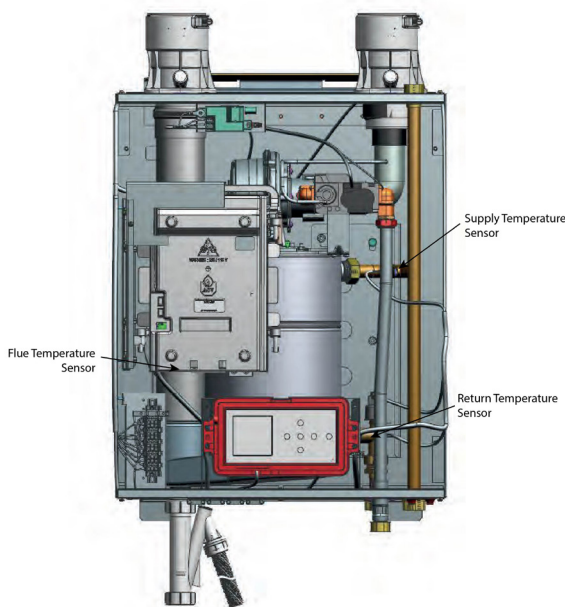
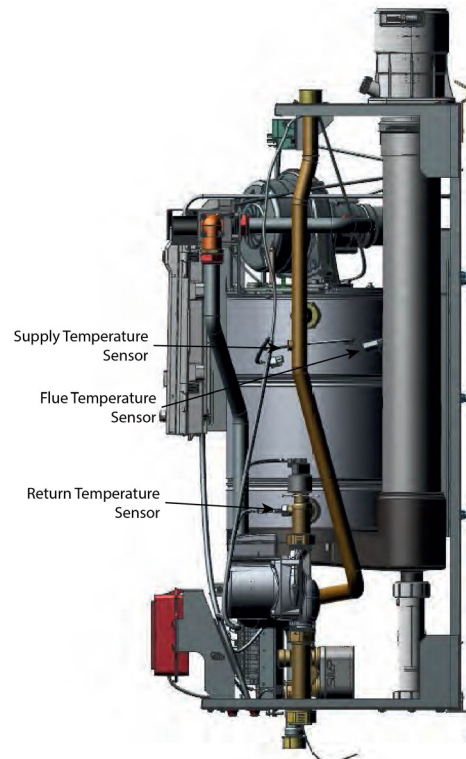
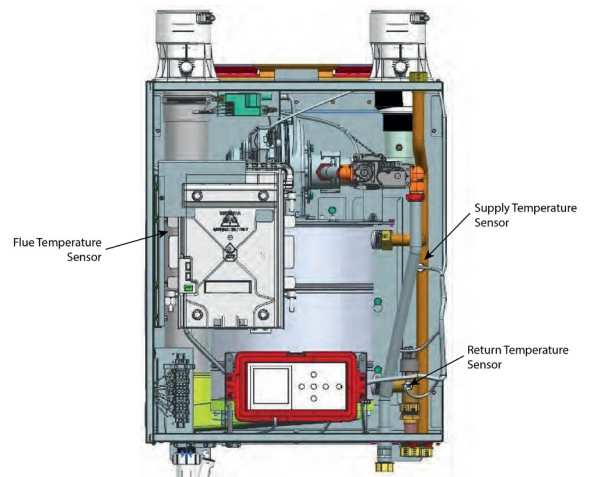

Fig. 1: Instinct 110 Temperature Sensor Location
Fig. 2: Instinct 155 Temperature Sensor Location
Fig. 3: Instinct 199 Temperature Sensor Location
7. Locate the temperature sensor location from Fig. 1 for Instinct 110, Fig. 2 for Instinct 155 models, and Fig. 3 for Instinct 199 models.